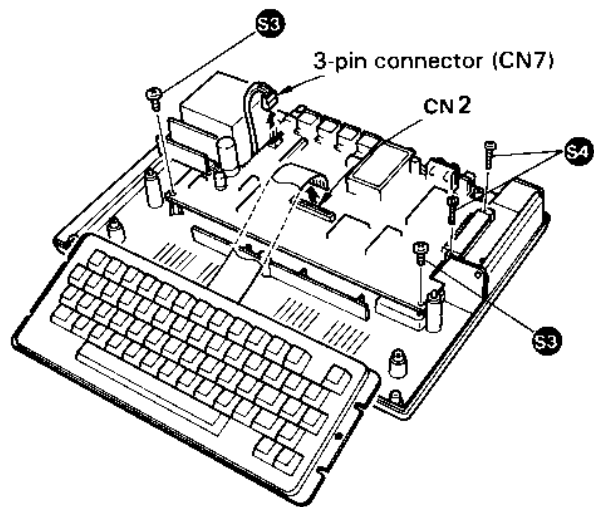

Figure 3-2. Removal of Main PCB
5. Disconnect the cable from the wire connector which is attached to the keyboard (Figure 3-2).
6. Then disconnect the power transformer at the 3-pin connector on the main PCB (Figure 3-2).
7. Remove four (two screws S3 and two screws S4) screws which attach the PCB to the bottom case cover (Figure 3-2). If it is necessary to remove the shield from the PCB, do so by removing the 16 rivets which attach it to the PCB.